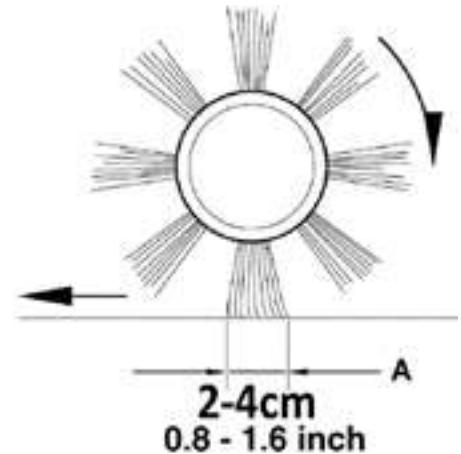

Figure1
- Check that the main brush print (A, fig. 1), along its length is 0.8 to 1.6 in (2 to 4 cm) wide.